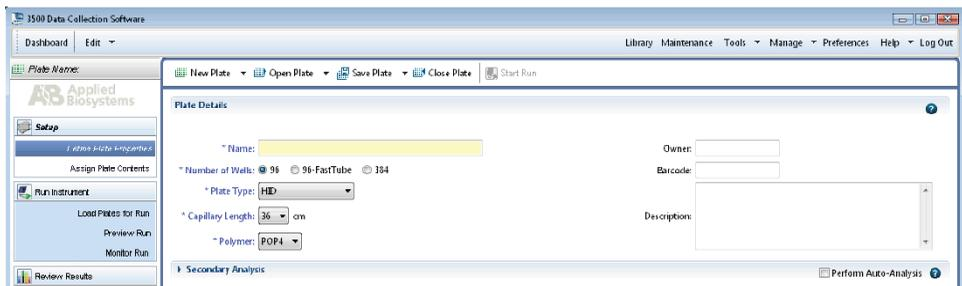

Figure 8. Defining plate properties.
9. Assign a descriptive plate name. Select the plate type **HID** from the drop-down menu (Figure 8).